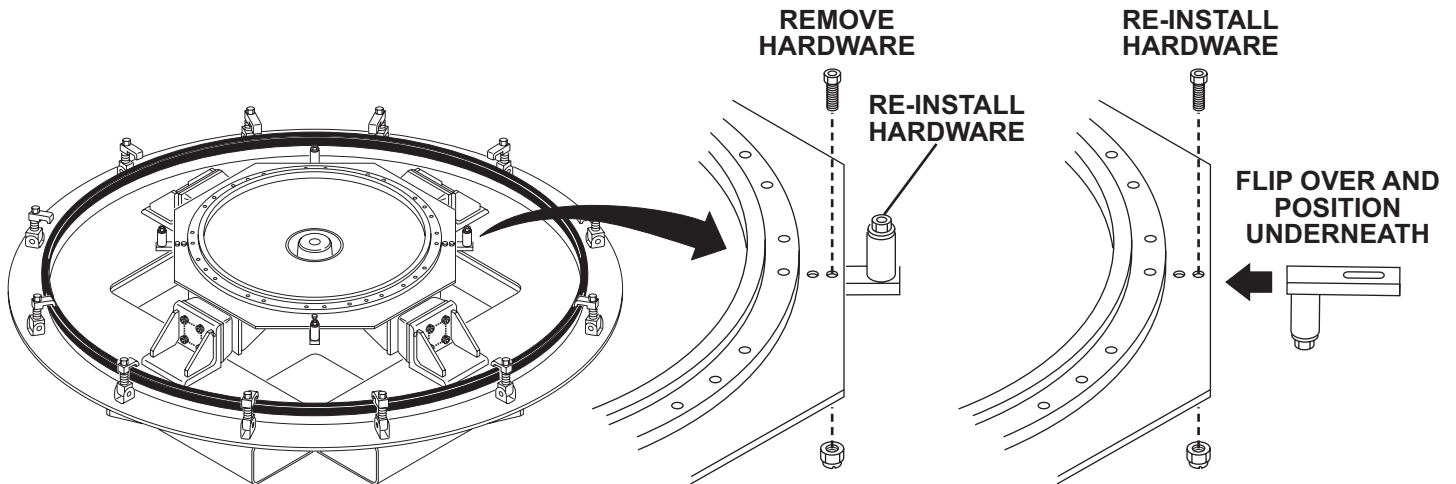

Figure 5.1-2. Adapter Storage Brackets (Storage Position).
- 3) Re-install the four (4) hex head cap screws into the adapter storage brackets (see Figure 5.1-2). Remove the eight (8) hex head cap screws and lock nuts retaining the adapter storage brackets. Install the adapter storage brackets in their storage position with the eight (8) hex head cap screws and lock nuts. Torque fasteners to 10 ± 2 Ft-Lbs.